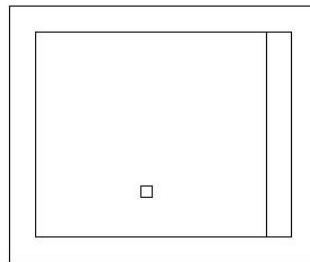

FIGURE 2.16: Offsetting the first line of the opening
2. Pick the inside vertical line on the right, and then pick a point to the left of this line. The line is offset to make a new line 0.5 units to its left (see Figure 2.16).